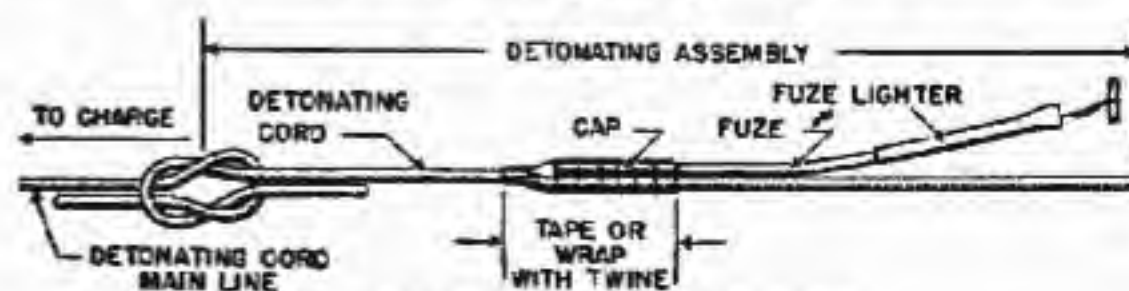
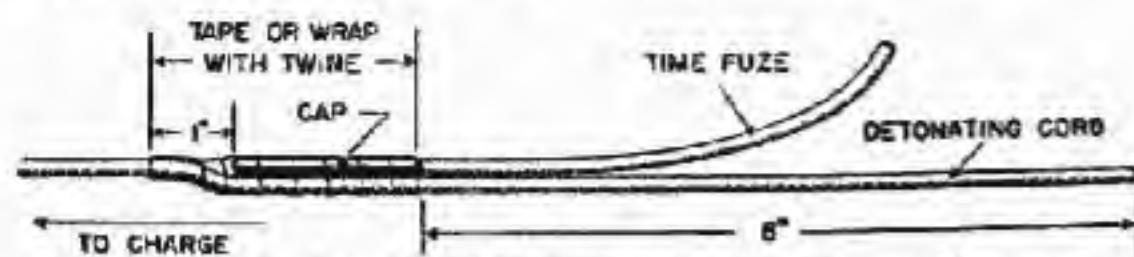

FIGURE 95.—Detonating assembly.
FIGURE 96.—Attaching cap to detonating cord.
crater explosive or a bangalore torpedo. The assembly is made by binding a nonelectric cap to a piece of detonating cord (as shown in fig. 96), allowing sufficient length of detonating cord to tie a square-knot splice to the charge. Time fuze is crimped to the cap, and a fuze lighter is crimped to the other end of the fuze. (See fig. 95.)
■ 52. NONELECTRIC CONNECTIONS.—*a. To attach cap (electric or nonelectric) to detonating cord.*—Lay the cap and time fuze alongside the detonating cord, with the cap pointing in the direction of the charge. Bind the cap and detonating cord securely together, using either friction tape or twine, as shown in figure 96.